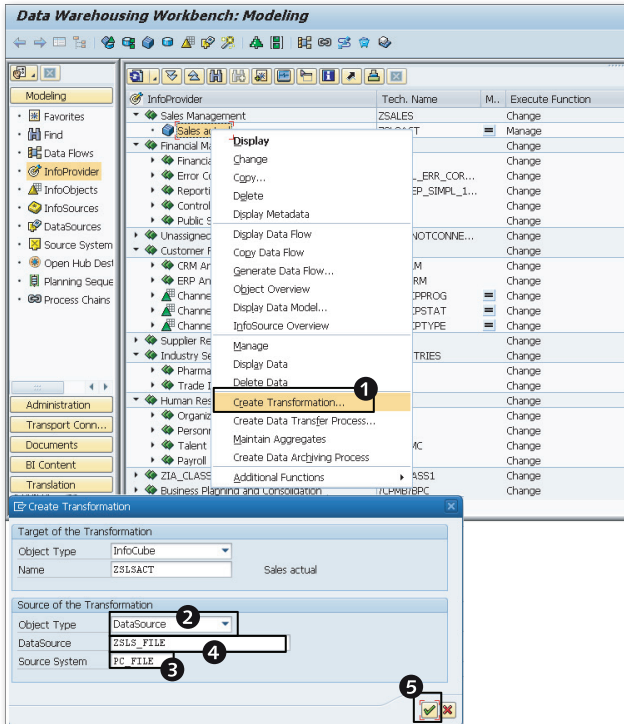
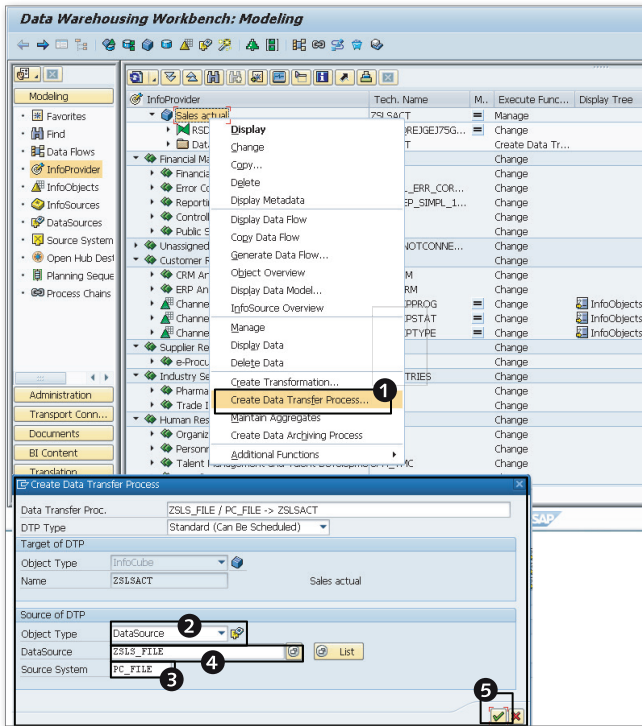
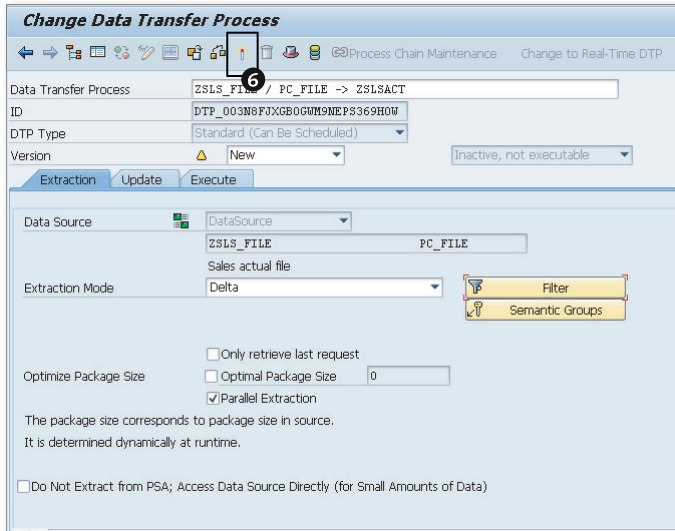

Figure 4.5 Create a Transformation—Part A
Figure 4.7 Create Data Transfer Process—Part A
Figure 4.8 Create Data Transfer Process—Part B
Perform the following steps to create a transformation that loads data from the Sales DataSource created earlier into the Sales InfoCube, as illustrated in Figure 4.5 through Figure 4.8:
3. Under the SALES MANAGEMENT InfoArea, right-click on the SALES ACTUAL InfoCube, and select CREATE TRANSFORMATION from the context menu (Figure 4.5, ❶).
4. In the CREATE TRANSFORMATION window, select the source of the transformation. Select the OBJECT TYPE (DATASOURCE), and enter the SOURCE SYSTEM ("PC_FILE"), and the DATASOURCE ("ZSLS_FILE") (Figure 4.5, ❷, ❸, and ❹).
5. Click on ENTER (Figure 4.5, ❺).
We'll create a DTP by performing the following steps, as illustrated in Figure 4.7 and Figure 4.8:
3. Under the **SALES MANAGEMENT** InfoArea, right-click on the **SALES ACTUAL** InfoCube and select **CREATE DATA TRANSFER PROCESS** from the context menu (Figure 4.7, ①).
DATASOURCE we created earlier ("ZSLS_FILE") (Figure 4.7, ②, ③, and ④) and click on ENTER (Figure 4.7, ⑤).
5. In the CHANGE DATA TRANSFER PROCESS window (Figure 4.8), select the extraction mode. If you select FULL, all of the data from the source is loaded into the target. If you select DELTA, only the changes made since the last time the data was extracted from this source are extracted into the target. We will use the DELTA extraction mode.
6. Click on the ACTIVATE button to save and activate the DTP object (Figure 4.8, ⑥).